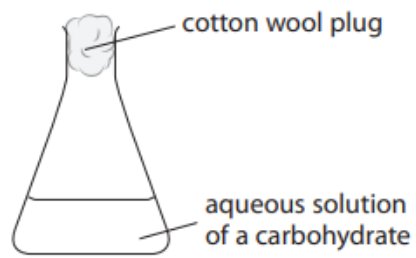

Figure 10
- 10 (a) Figure 10 shows a flask fitted with a cotton wool plug. The flask contains an aqueous solution of a carbohydrate.